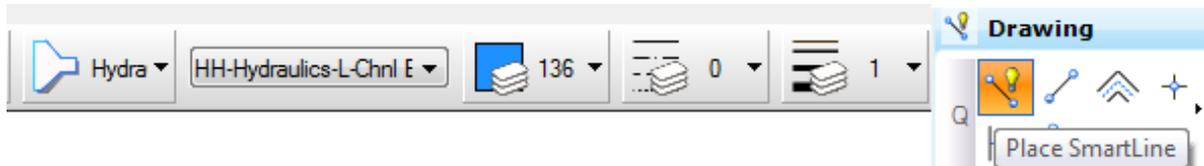

Figure 12 - Level Symbology & Smart Line Command
- B. Select the level **HH-Hydraulics-L-Chnl Bnk**, select the **smartline** drawing command and **place a line** in the MicroStation view for the **left bank and left overbank** from down-stream to up-stream (Figure 12). **Repeat** these steps for **right bank and right overbank** using level **HH-Hydraulics_R-chnl Bnk**. **Turn off** the survey file.